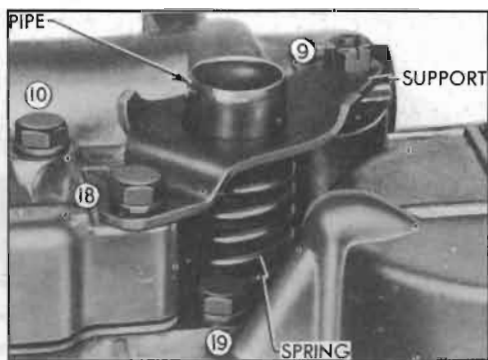

Figure 4-144—Oil Screen Suction Pipe Installation
6. Remove bolt No. 18 and nut No. 9 and install cork gasket, suction pipe, retaining spring and support as shown in figure 4-144. Tighten bolt and nut to 11-15 ft. lbs. torque.